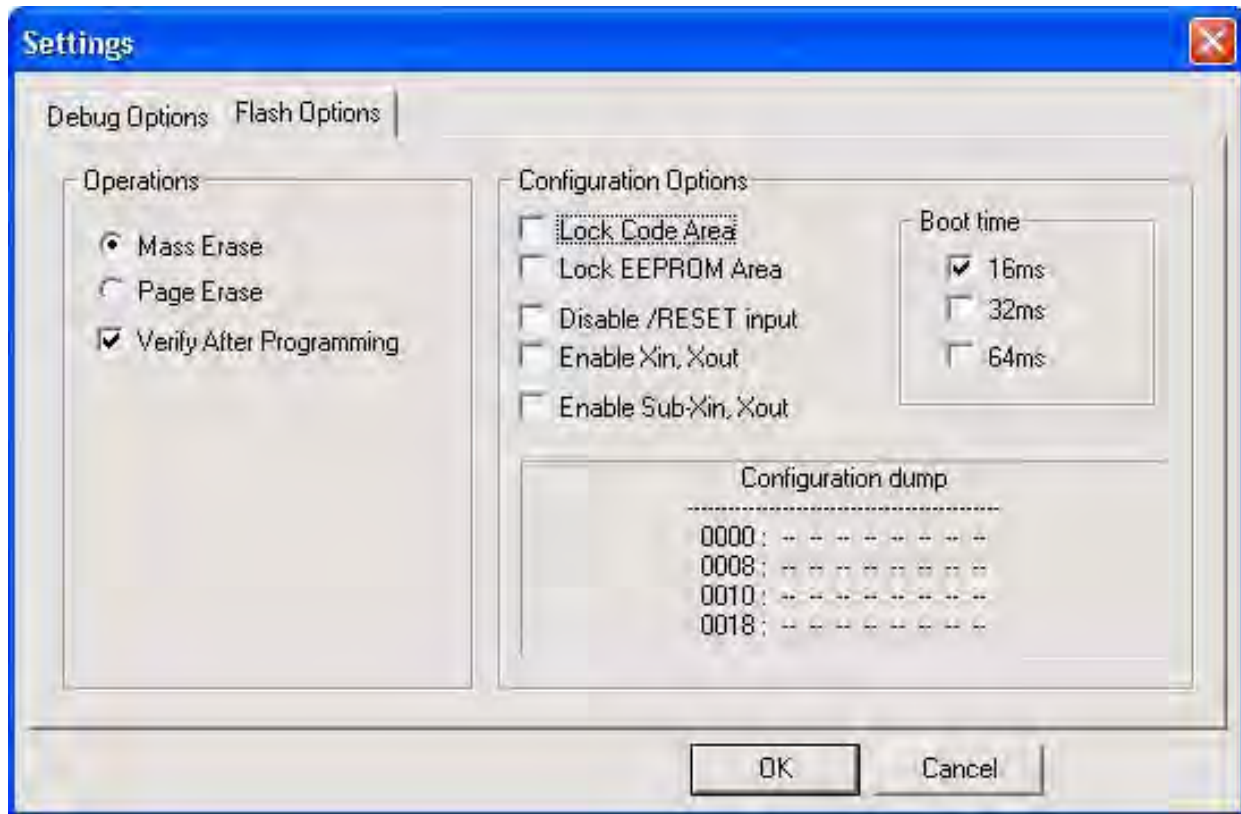

Figure 27. Configuring the Flash Options
3. Click the **Flash Options** tab. The Flash Options Settings dialog will appear, as shown in Figure 27. To select the proper options for Flash programming, refer to the Z51F0410 Product Specification \(PS0295\).